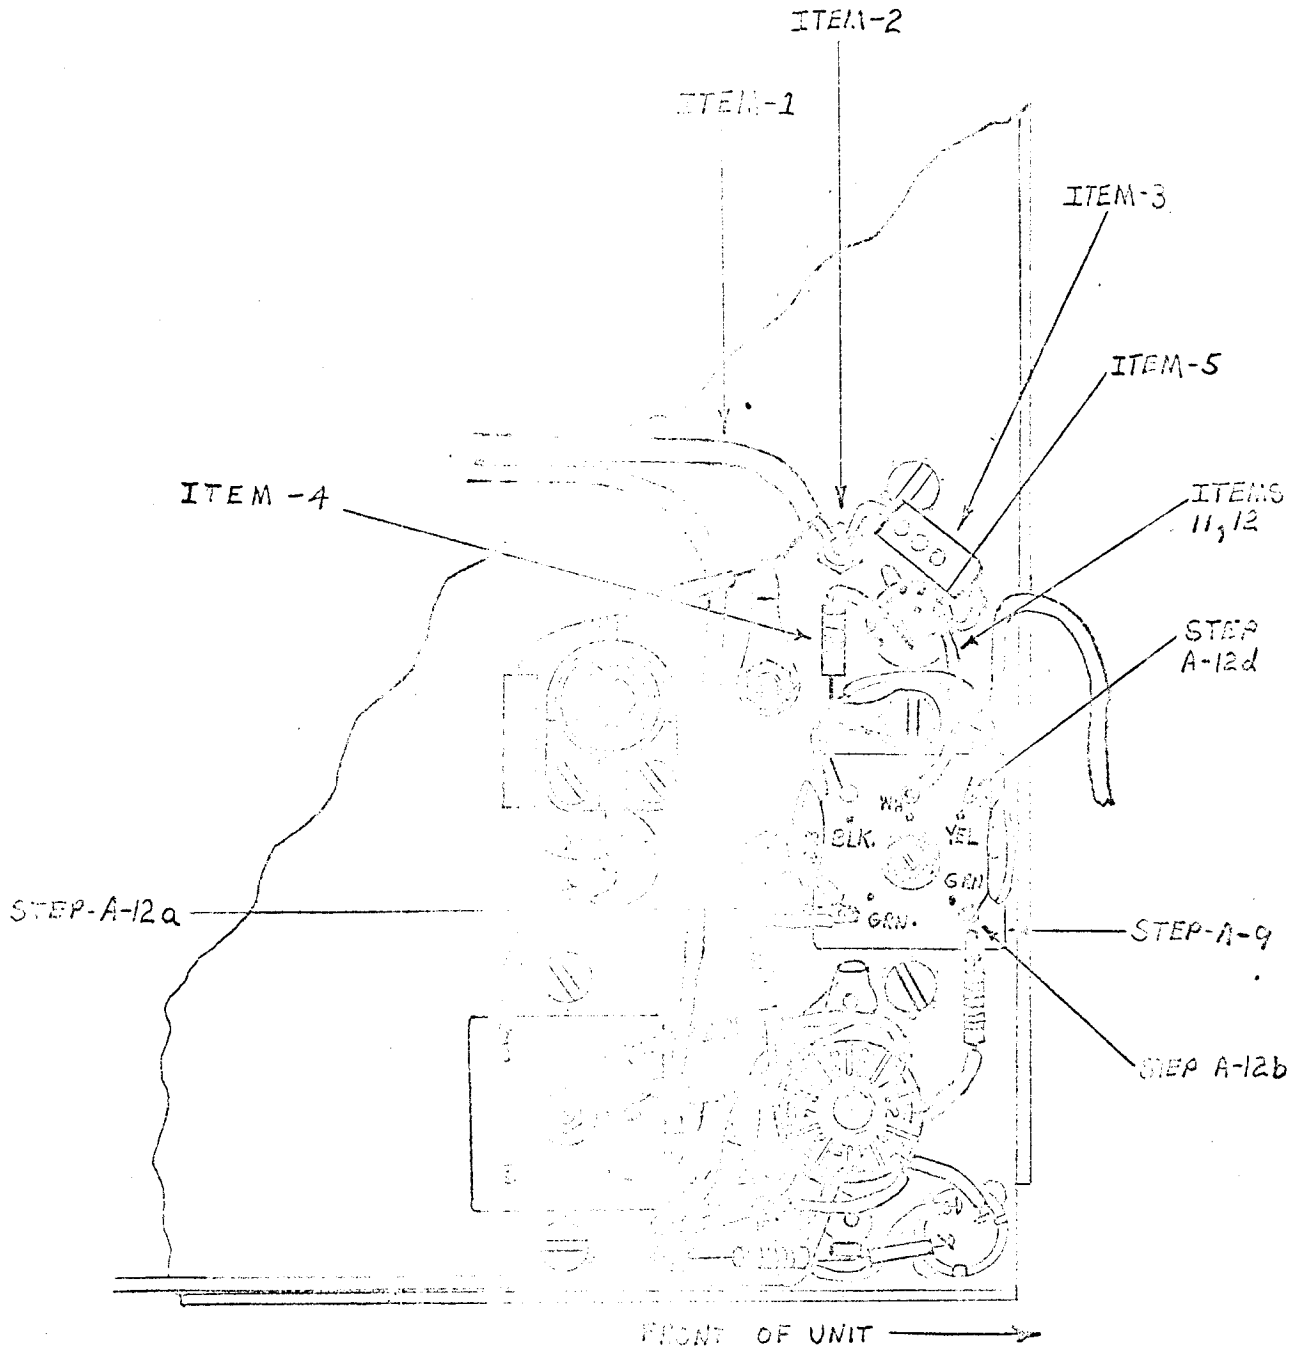

FIGURE 2
9. Mount the RF transformer (Item 6) in space vacated by T1101, as shown in figure 2.
- a. Connect 39 ohm resistor (R1102) from pin 7 of V1101 to bottom left terminal (green dot) of RF transformer, as per figure 2. Next connect 3000 MMFD. capacitor (C1102) to junction of R1102 and RF transformer. Solder the junction point. Other end of (C1102) should still be connected to ground lug located where the RF transformer is mounted.
- b. Connect 39 ohm resistor (R1101) from pin 2 of V1101 to bottom right terminal (green dot) of RF transformer, as per figure 2. Next connect 3000 MMFD. capacitor (C1101) to junction of R1101 and RF transformer. Solder the junction point. Other end of (C1101) should still be connected to ground lug located where the RF transformer is mounted.
- c. Connect ground lead from ground lug to top left terminal (black dot) of RF transformer, as per figure 2. Solder connection.
- d. Connect RC-174/U coax cable to top right terminal (yellow dot) of RF transformer as per figure 2. Solder connection. Shield lead of coax cable should still be connected to ground lug located where the RF transformer is mounted.
23. Check modifications to see that everything conforms with figure 2.